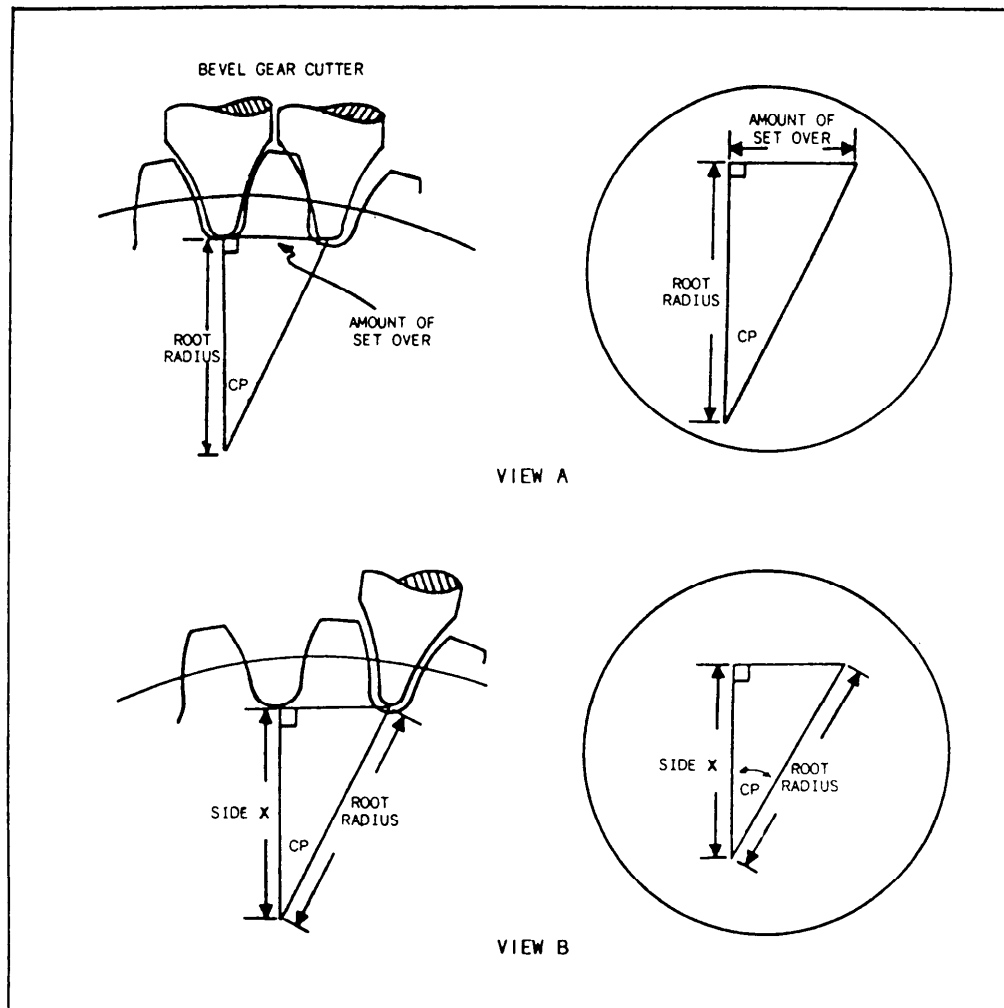

Figure 14-26.—Development of setover and depth increase.
To find the amount of setover, first establish the circular pitch angle ($\angle CP$). One circular pitch equals 360° . Therefore, you can divide 360° (one circular pitch) by the number of teeth (NT) to find the circular pitch angle ($\angle CP$). You can solve for the amount of setover by using the triangle in figure 14-26, view A.
To find the amount of depth increase, set up the triangle shown in figure 14-26, view B. In this triangle, side X is equal to the root radius multiplied by the cosine of the circular pitch angle ($\angle CP$).